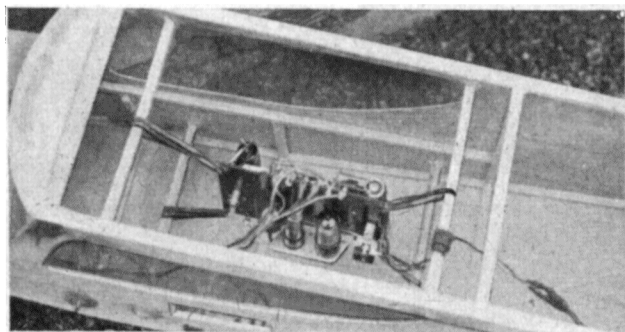

Fig. 4 The receiver is slung from its four corners to four cross dowels in the fuselage. Stout rubber bands form the shock-proof suspension.
Next month we will have a real photographic session, full of hints on how to take better photos. In the meantime suppose you try to develop what the photographers call "the seeing eye", or the faculty of picking out good photographs? It makes quite an interesting game, and you can start on this copy of the AEROMODELLER. Look carefully at every one of the photographs, and decide which ones you like best. THEN try to work out *why* you prefer them. To give you the idea, I have included a photograph which I think is very successful—Fig. 4—and which is just the sort of result one can get with the simplest box camera. Look at it carefully. Where was the camera held—waist level, eye level, or near the ground? How does this affect the background? Is it a good background, and if so why? Where was the sun when the photograph was taken? Does it shine onto the top of the wing, or underneath it? And what difference would that make anyway? Do you think the figures are well placed in the picture? What makes you think that? And how is it that the model looks the most important thing on the picture?
2. Installation in the model. The correct installation in the model will make for quick tuning, care-free operation, and lack of damage to the valuable receiver in a heavy landing. Sling the receiver on edge as shown in Fig. 4, by rubber bands to four $\frac{1}{4}$ -in. dowels located across the fuselage. I reinforced these dowels by plastic wood where they join the sheet balsa fuselage sides that I invariably use in my models, whatever their size. I design my radio models with a wider "side by side seater" cabin so that one can get at wiring easily, and to ensure that no damage is done by lateral sway of the receiver in rough landings. The stout rubber suspension bands prevent trouble from vibration, and if robust, stop the receiver smashing forward in a bad landing. This rubber band suspension is the secret to success in more ways than one, but is useless if the cabin is narrow or the bands sloppy. All wiring should be of the E.D. very thin light flexible insulated wire, because this has little inertia to cause bad joints or broken wires, due to vibration etc. Wires should be short and taped together, and fixed so that they do not move about the cabin and upset radio efficiency. Joints must of course be carefully soldered. No set can ever be reliable if there are poor electrical joints. (Study Fig. 4 and Fig. 1).